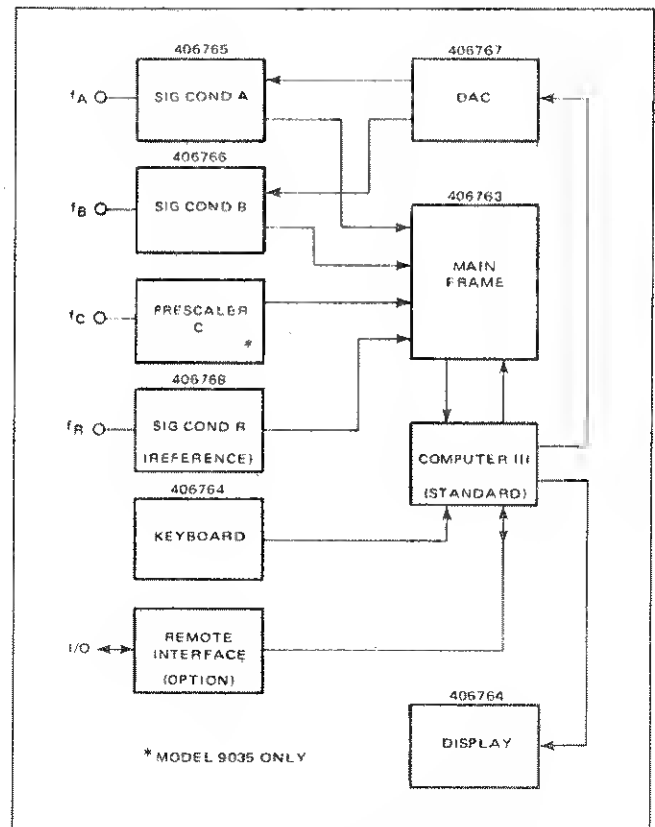

Figure 4.11 - Inter-Board Signal Flow
4.4.1 The following paragraphs contain descriptions of the circuitry, organized according to the board on which the circuitry is located. The boards with basic signal flow shown between the boards is illustrated in figure 4.11.